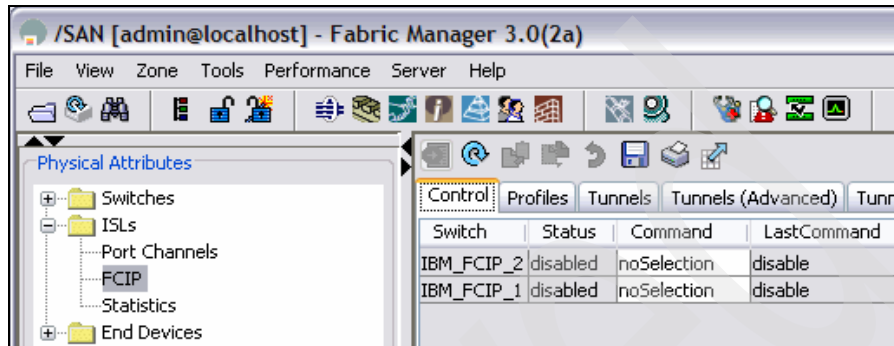

Figure 12-7 FM path to view or modify FCIP configuration
- a. From the Physical Attributes pane, open the **Switches** → **ISLs** folder, and select **FCIP**, as shown in Figure 12-7.